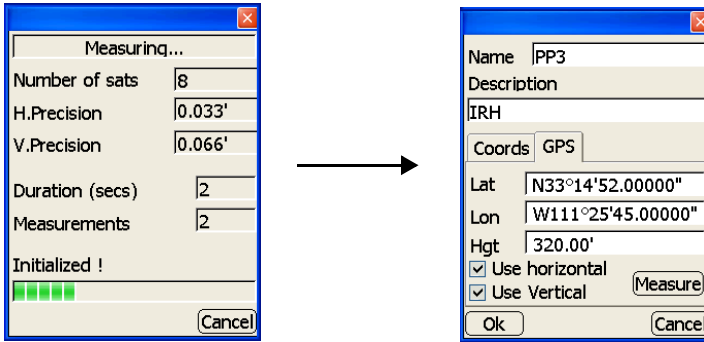

Figure 4-21. Measuring the Control Point
8. On the *GPS* tab, press **Measure** when ready. The *measurement* dialog box opens and the Rover begins to measure the Control Point (Figure 4-21 on page 4-24).
After a successful measurement, measured GPS coordinates will display in the *Lat* (latitude), *Lon* (longitude), and *Hgt* (height) entry boxes (Figure 4-21).